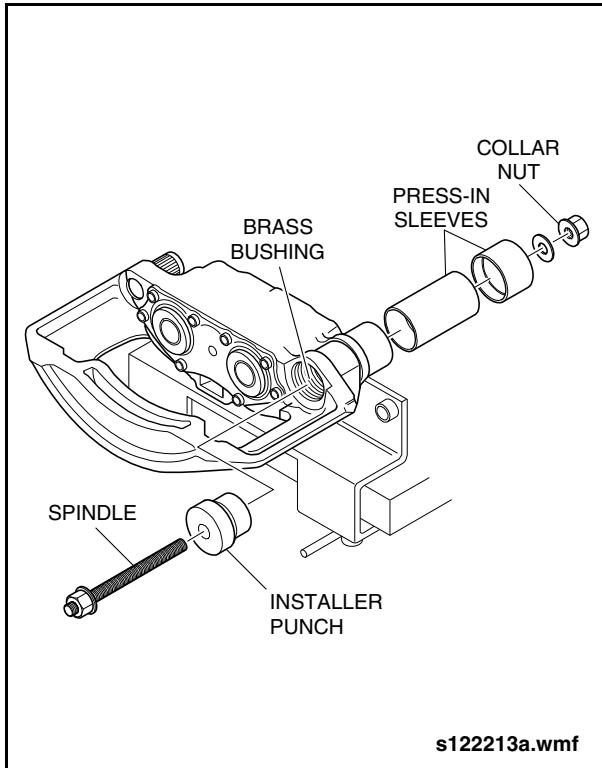

Fig. 1-60: Brass Bushing Removal
- a. Assemble and install the installer punch, press-in sleeves, spindle, and collar nut (Items 72, 77, 75, 71, & 70 from special tools list). See "Fig. 1-60: Brass Bushing Removal" on page 63.